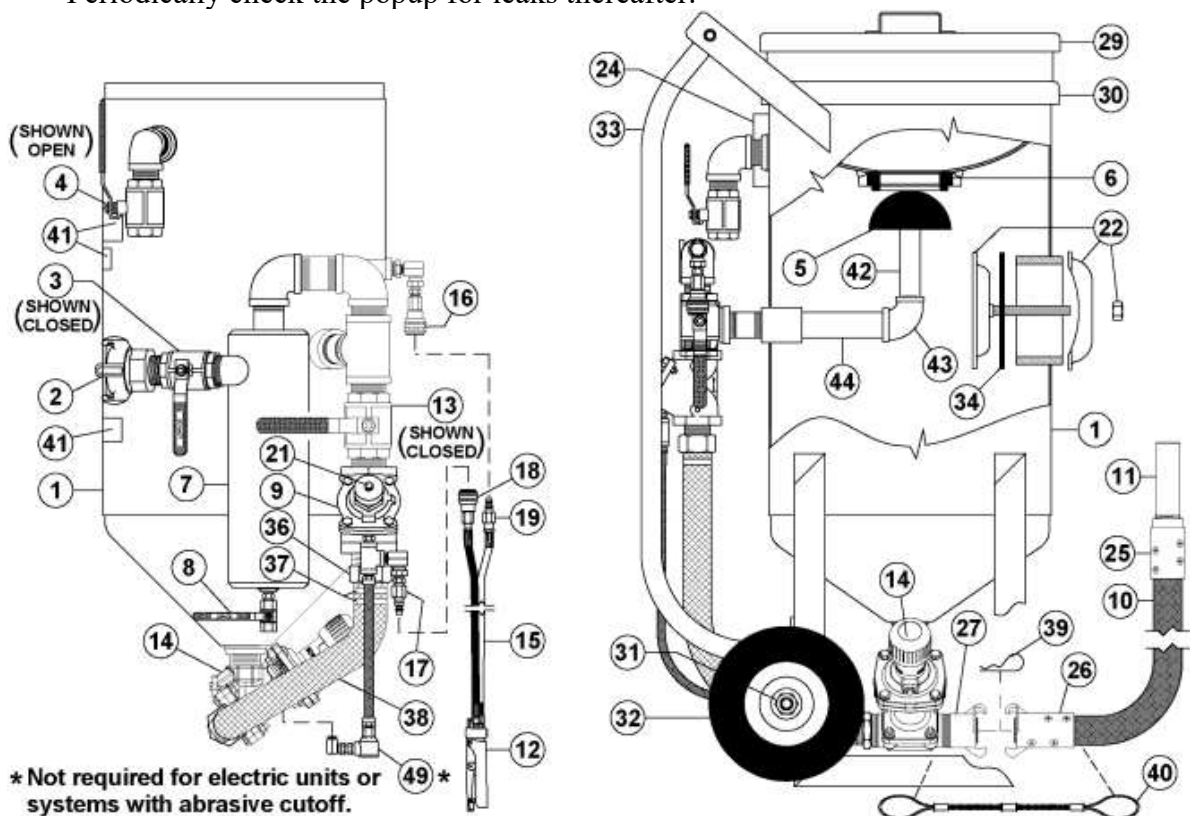

Figure 7.1 – TeraValve™ Abrasive Blaster with pneumatic blast controls
- 7.1.2. Remove the vessel lid (#29) and screen (#30) to check that the popup (#5) has dropped open. The open popup indicates that the blast vessel is depressurized. See Figure 7.1.
7.2 Beginning the Blasting Operation (See Figure 7.1 and 7.2)
- 7.2.6. Close the blowdown ball valve (#4). The ball valve is closed when the handle is perpendicular to the body (See Figure 7.1 or 7.2).